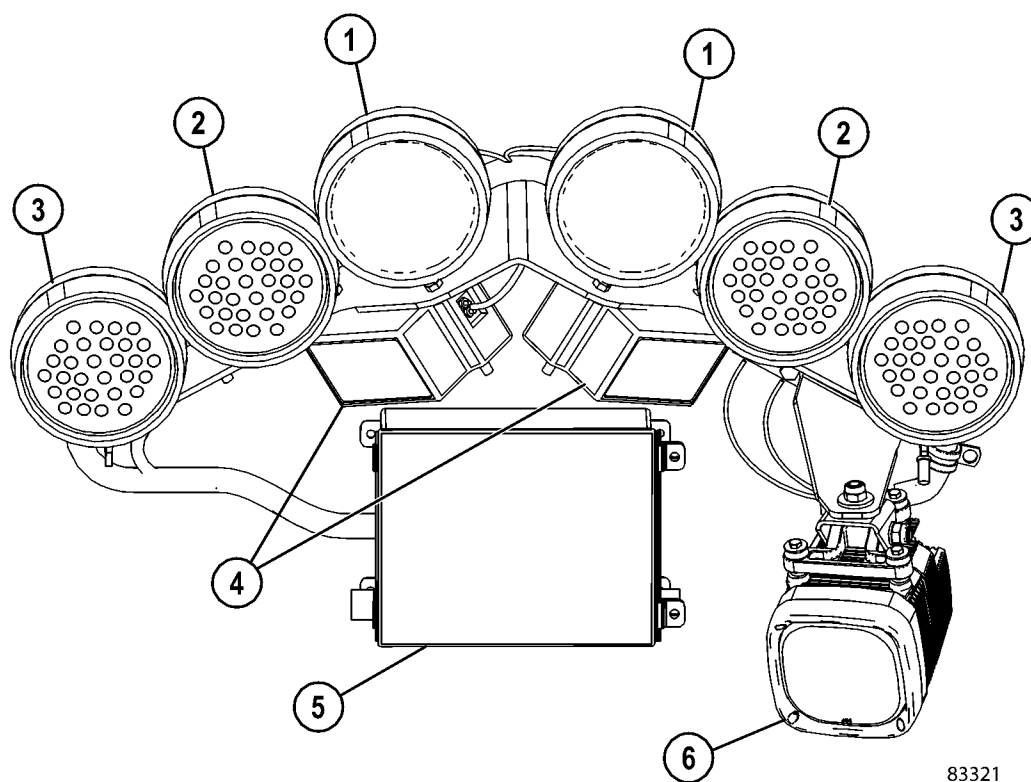

FIGURE 5-11. REAR AXLE LIGHT BAR
Backup lights (1, Figure 5-11) and (6) illuminate when the operator moves the directional control lever to REVERSE. The lights can also be activated by using the backup light switch in the cab. Using the switch turns the lights on regardless of directional control lever position.